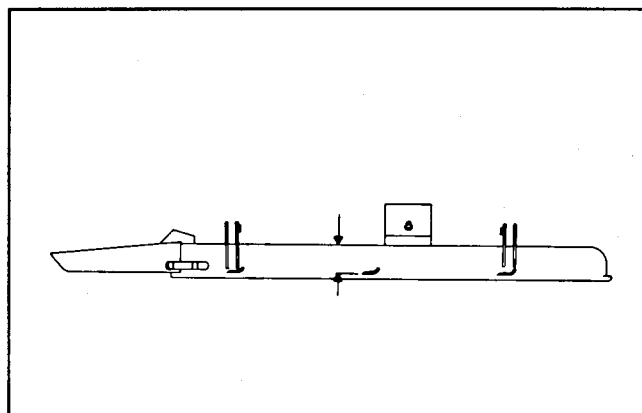

Figure 21
2. Rotate the blade until the ends face forward and backward. Measure from the inside of the cutting unit to the cutting edge at the front of the blade (Fig. 21); note this dimension.